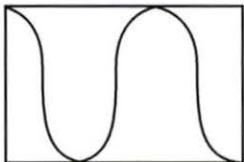

Figure 65. Sensing Element Symbol
1. Determine which type of pressure sensing element symbol is shown in figure 65.